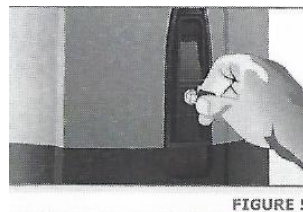

FIGURE 5.
- Flip down the lock cover and insert the camlock key and rotate it 90 degrees clockwise. Fig 5